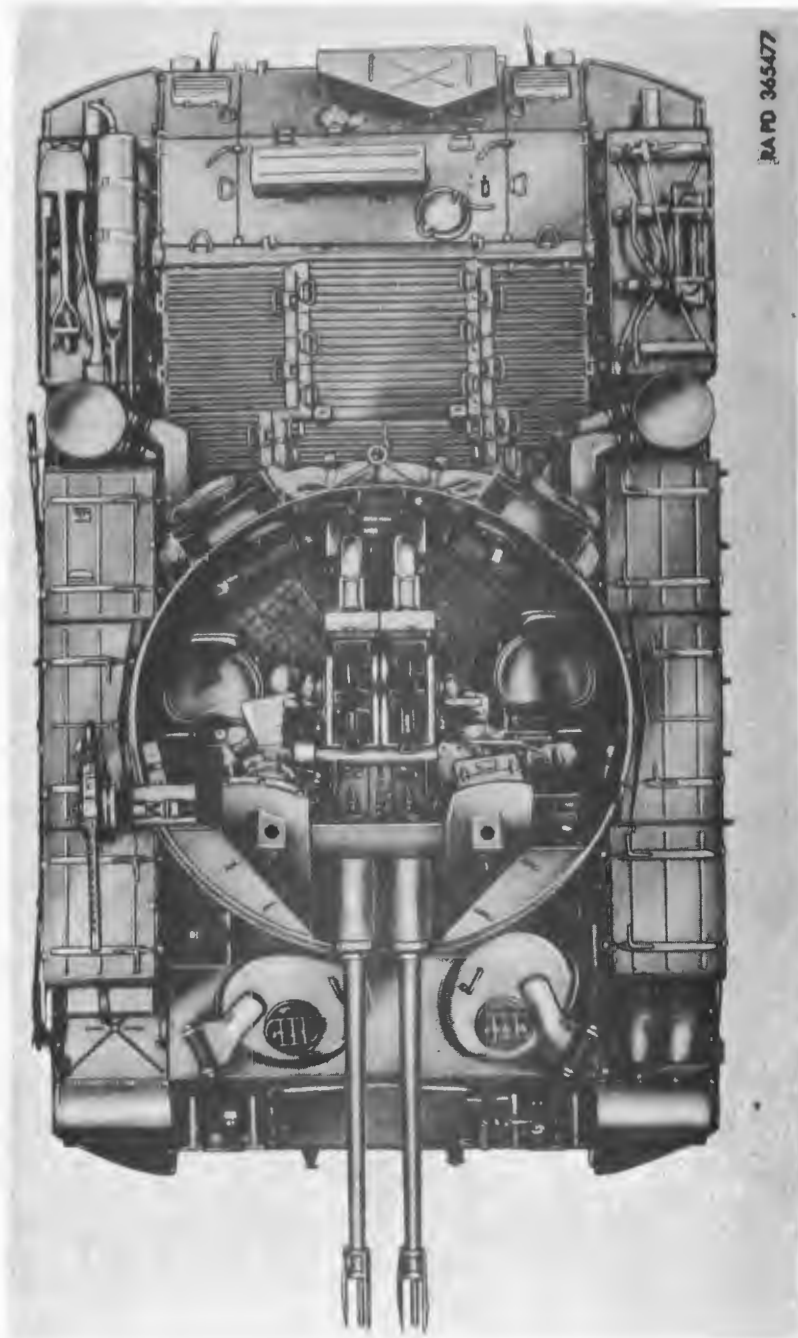

Figure 1. Twin 40-mm full tracked self-propelled gun M42 (T141), with guns in firing position—left front view.
- (3) Shock absorbers are connected to all road wheel supporting arms with the exception of the center and intermediate pairs. The lower ends of the direct-action-type shock absorbers are attached to the road wheel supporting arms and the upper ends are fastened to the hull side plate.
- (4) Compensating wheels are located at the left and right front of the vehicle to maintain proper track tension. Each compensating wheel is attached to the adjacent front road wheel by a swinging arm and link. Any decrease in track tension caused by deflection of the front road wheel is compensated immediately by the arm moving the compensating wheel forward, thereby maintaining proper tension.
e. 40-mm Twin Gun Mount M4E1 (fig. 1). The welded armor plate gun mount is an open-topped cylinder supported midway through the vehicle on a ball bearing race ring. The gun mount can be traversed 360° in either direction by power or manual operation. A 40-mm automatic dual gun M2A1 and cal. .30 machine gun M1919A4 (flex) are mounted on the gun mount. The 40-mm gun can be elevated to +85 degrees and depressed to -3 degrees by power operation. Under normal operation, 87° elevation is attainable and the gun can be depressed to -5°. Power traverse and elevation is controlled by the local control system M16A1E1. Supereleva-
f. Armament (fig. 1). The armament in each M42 vehicle consists of a 40-mm automatic dual gun M2A1 and a cal. .30 machine gun M1919A4 (flex). Both guns are mounted on gun mount M4E1.
- (1) *40-mm automatic dual gun M2A1*. The 40-mm automatic dual gun is the major armament furnished on M42 vehicles. The gun is a high-velocity, flat-trajectory, automatic-loading antiaircraft weapon capable of firing 240 rpm.
- (2) *Cal. .30 machine gun M1919A4 (flex)*. This gun is a flexibly-mounted, air-cooled weapon used to provide additional fire support.
b. Army Vehicle Registration Number (figs. 1 and 4). This number is stenciled on both the left and right side stowage boxes and on the hull front and rear plates.